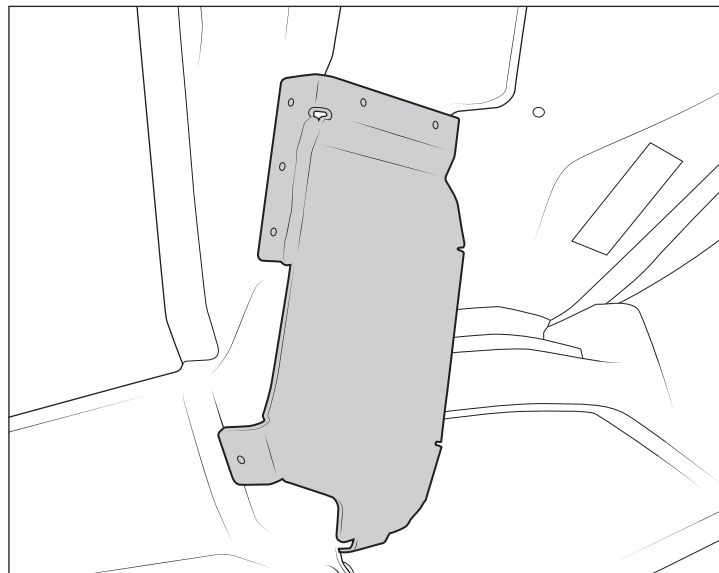
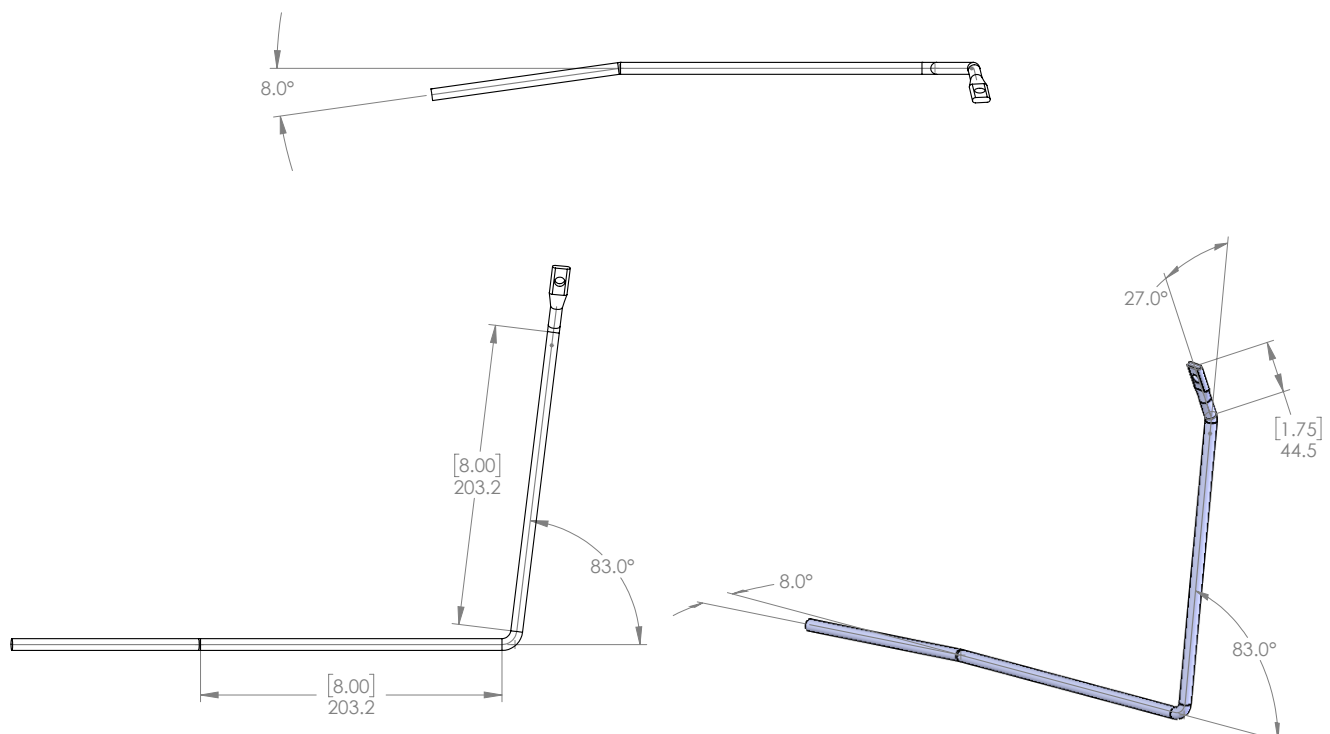

Figure 17
Figure 26
- F. When closeout panel fits cut opening uniformly all the way around mark rivet hole locations. Drill one or two holes for both the interior and exterior flanges. Place rivets in the locations to loosely install the closeout panel. Do not completely install just yet (fig. 17).
- C. Bend the rod as shown (fig. 26). Keep in mind that the flat side of the tab will be bolted to the hole location drilled in figure 17.